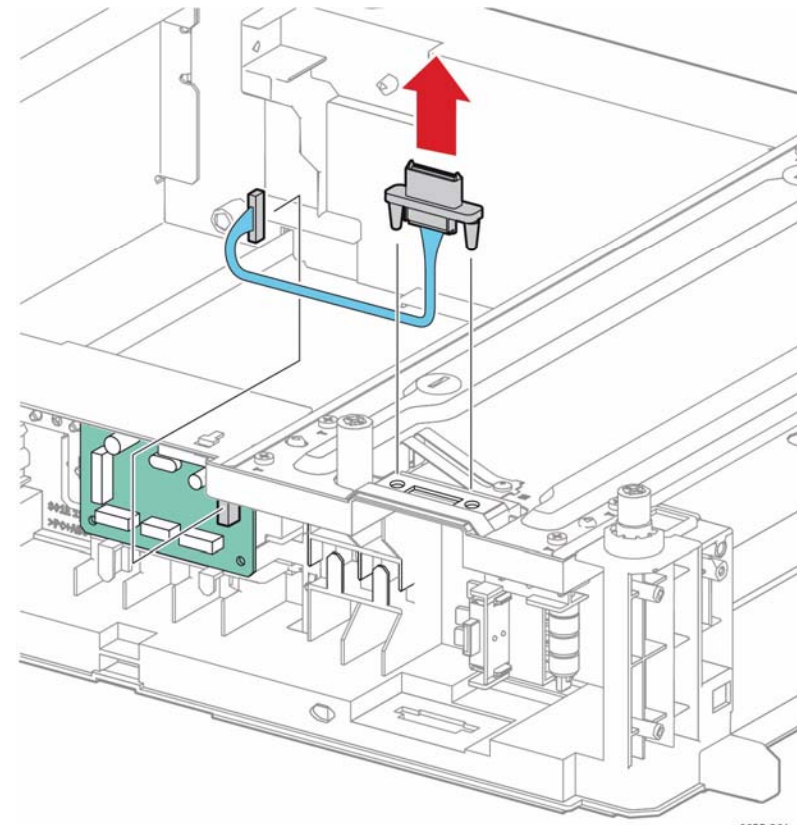

Figure 1 Remove the 550 Option Feeder Harness Assembly
5. Refer to Figure 1 to locate and release the two latches attaching the feeder to the printer frame, and remove the feeder with its harness.